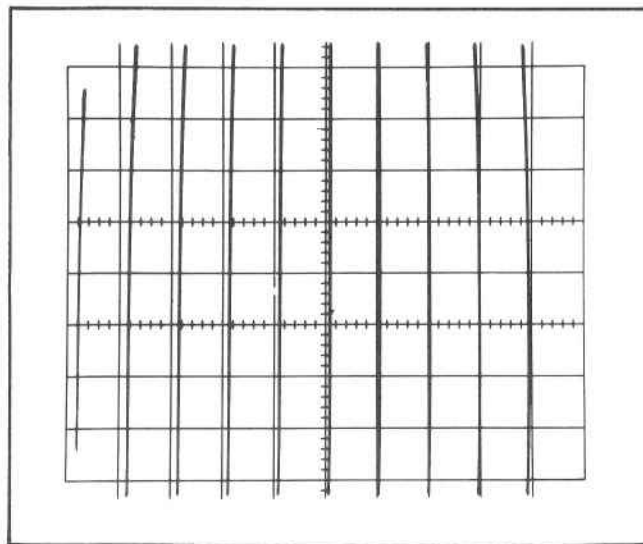

Fig. 5-1. CRT display showing bowing of vertical lines (step 3).
f. Check for ≤ 1.5 mm of curvature or slant of the vertical lines within the center 8 centimeters of the display (see Fig. 5-1).